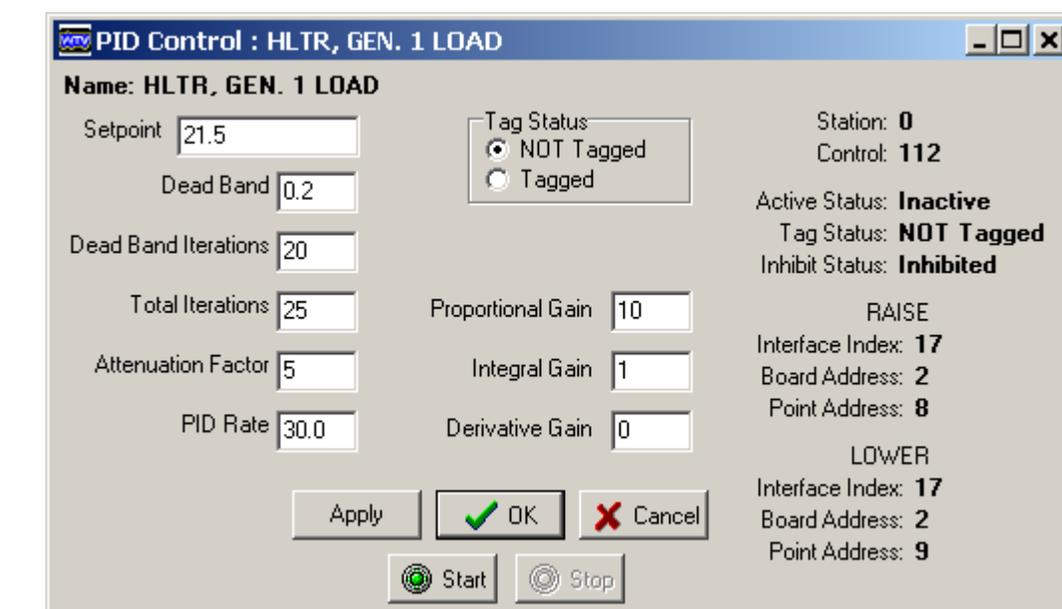

Figure 22. PID Control Window
2. Select the control you want to change or start. A window appears (Figure 22 shows one example) showing the control's name and the Station and Control ID numbers. You can type or click the options you want to change (for example, Setpoint, Deadband, Tag Status etc.).